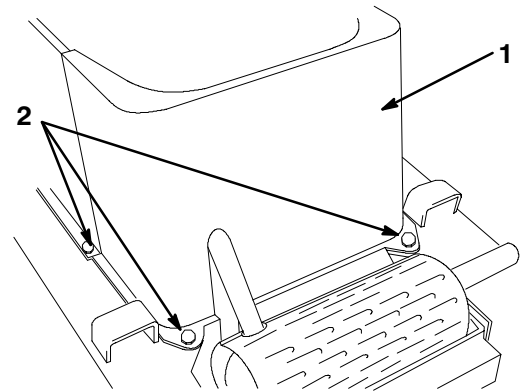

Figure 21
2. Remove the four bolts securing the front screen to the traction unit frame and remove the front screen (Fig. 21).